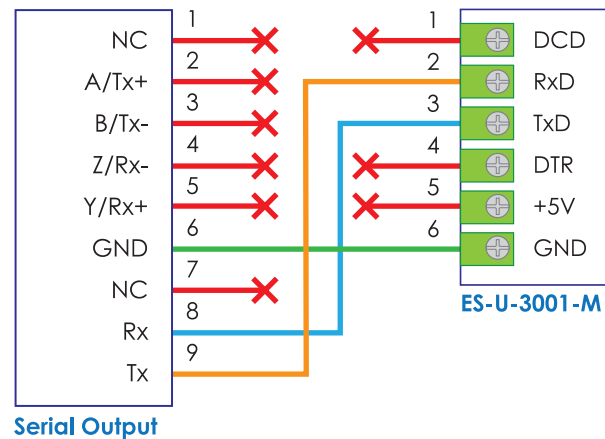

Figure 17. The connection pinout of RS232 Serial Output with ES-U-3001-M converter in RS232 mode
7. The connection wiring pinout of the control box RS232 serial output is illustrated in Figure 17.